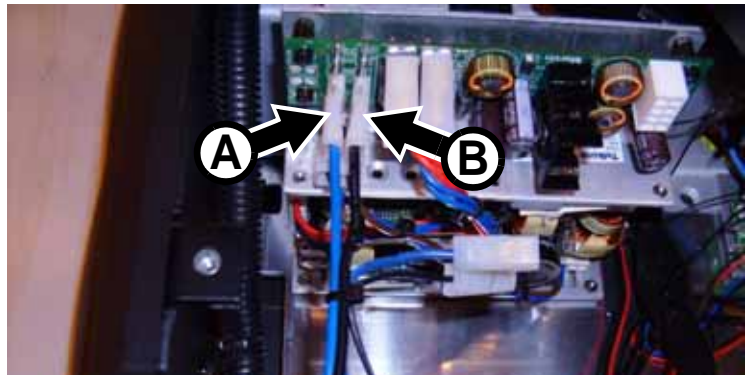

Figure 28
30. See Figure 28. Route the ballast wiring harness from the mains filter on the ballast PCB over the connections panel side of the base to the lamp on/off relay on the main PCB. Connect the long blue lead **A** from the mains filter to spade connector PL108 on the SMPS PCB. Connect the long black lead **B** to spade connector PL105.